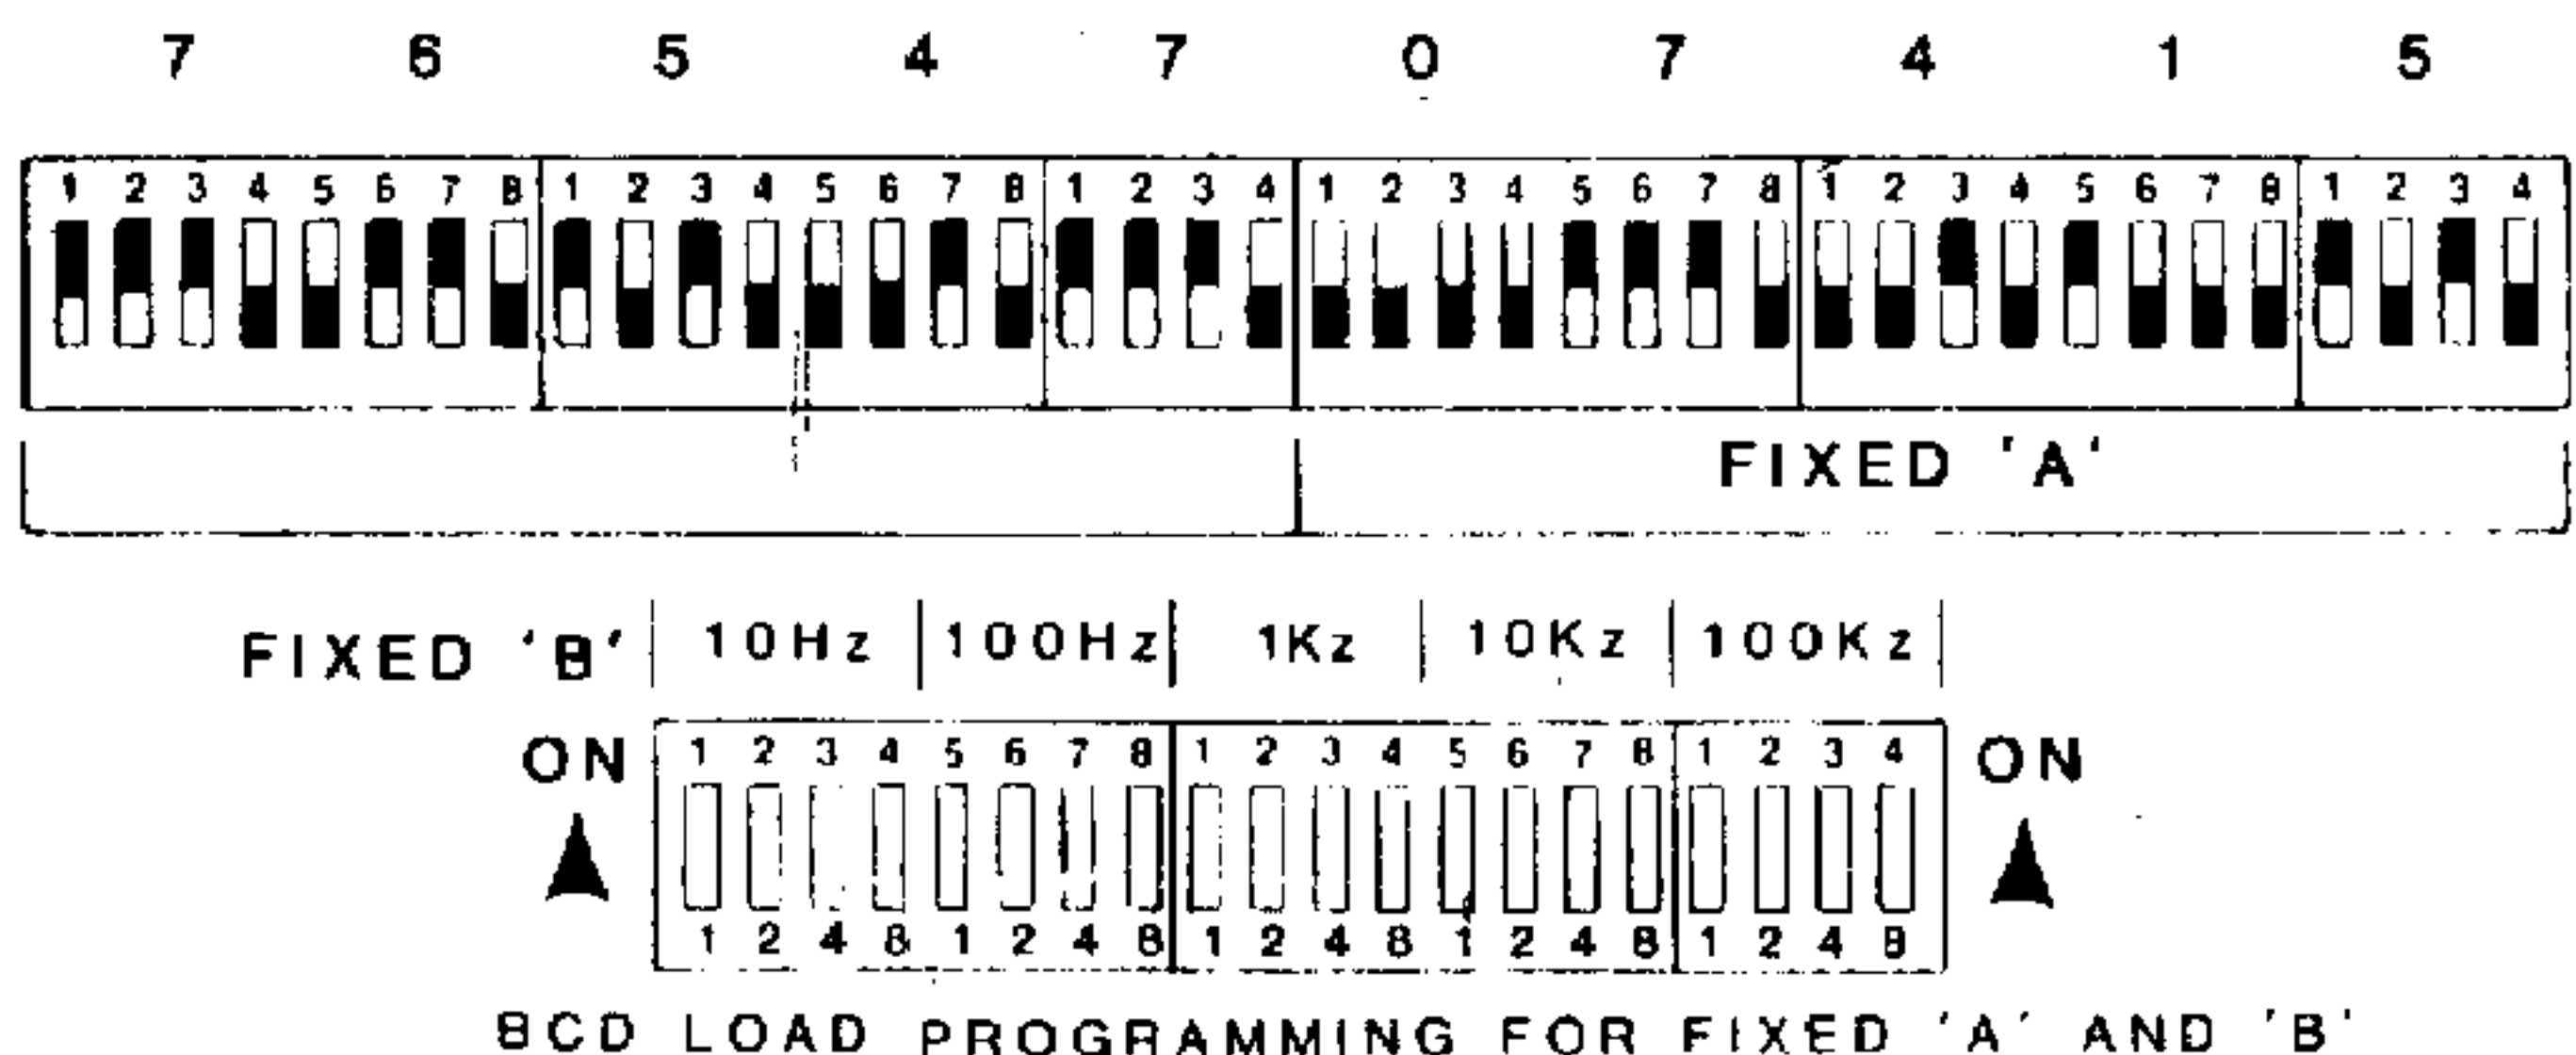

Figure 3-3 Programming For 7-Line
- (1) 14345.67
- (2) 14000.00
- (3) $14000.00 - 200.00 = 13800.00$
- (4) $14345.67 - 13850.00 = 49567$
- (5) USB = 00000
- (6) $54567 - 00000 = 54567$
- (7) $54567 + 20000 = 74567$
- (8) See fig. 3-3(a)
- See fig. 3-3(b)